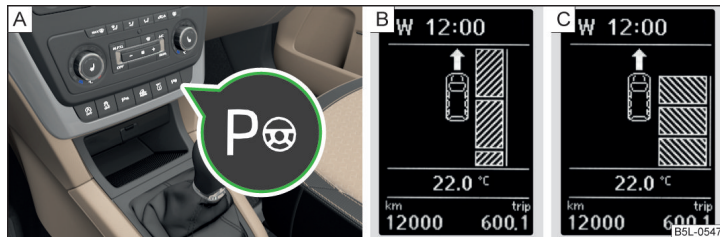

Fig. 149 System button / display
- The driver can stop the parking process at any time by pressing the symbol key  » Fig. 149 on page 136 or by a driver steering intervention.
The system can be enabled or disabled by pressing the symbol key  $P_{\text{Ⓢ}}$  » [Fig. 149 on page 136 - \[A\].](#)
- › Press the symbol button **once**  $P_{\text{Ⓢ}}$  » [Fig. 149 - \[A\].](#)
The display shows the following » [Fig. 149 - \[B\].](#)
- › Press the symbol button **twice**  $P_{\text{Ⓢ}}$  » [Fig. 149 - \[A\].](#)
The display shows the following » [Fig. 149 - \[C\].](#)
- Press the symbol button on the **Pe** » Fig. 149 on page 136.